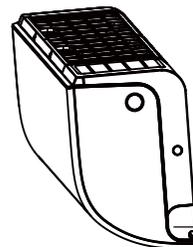

Fig. 4.9
2. If the wall hole is behind the unit, keep the knock-out panel in place. If the wall hole is to the side of the indoor unit, remove the plastic knock-out panel from that side of the unit. (See Fig. 4.9). This will create a slot through which your piping can exit the unit. Use needle nose pliers if the plastic panel is too difficult to remove by hand.